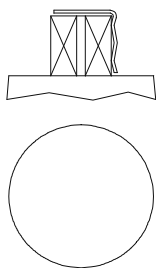

FIGURE 2. Location of Anti-Backlash Spring on 07 & Larger Squares. (Metal Coupling only)
2.1.4 (a) Metal coupling versions on 07 and larger models: fit anti-backlash spring over one corner of the actuator square as shown in Figure 2.